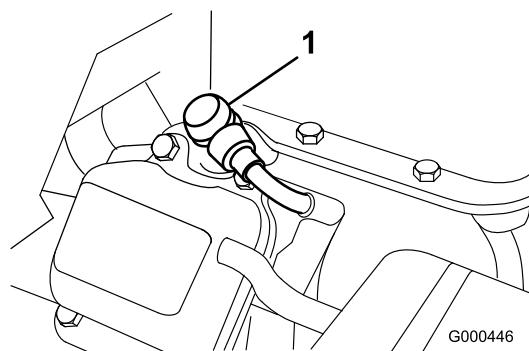

Figure 23
- Pull the molded wire off of the spark plug (Figure 23).